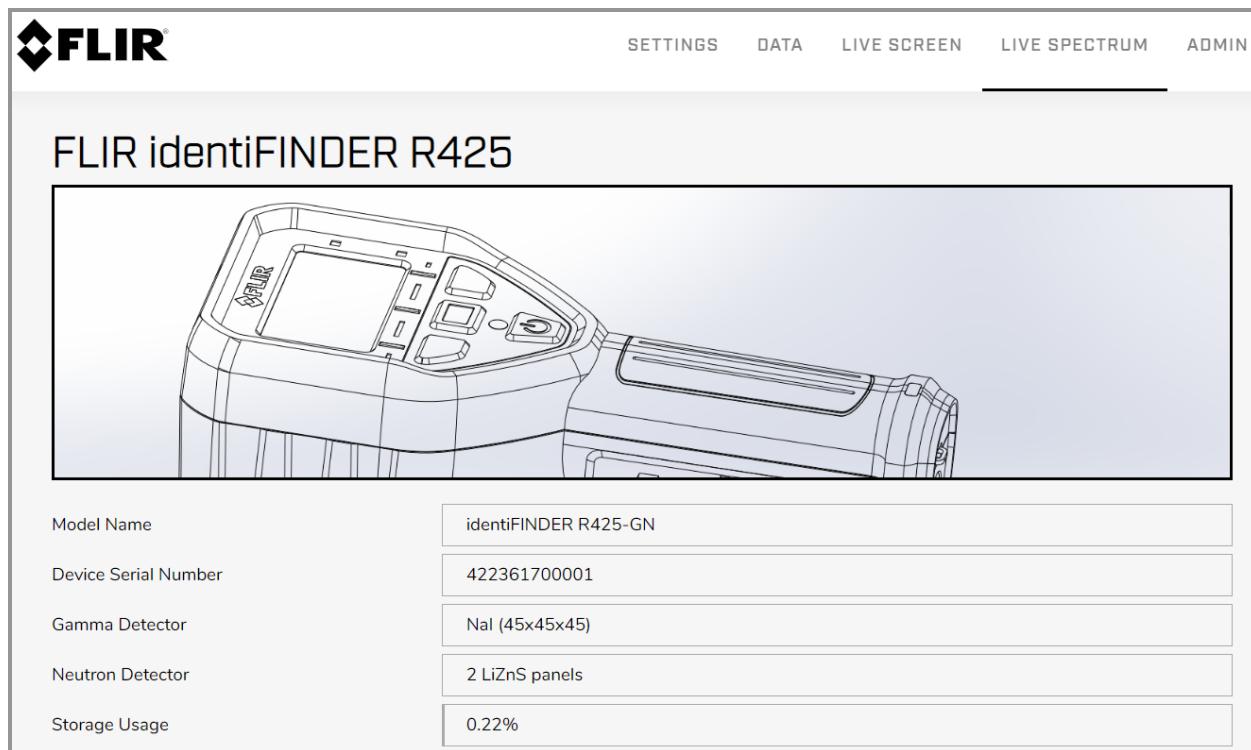

Figure 8-1: R425 web interface: Home page
2. Open one of the following supported web browsers and navigate to <http://r425.local> to display the home page (Figure 8-1):
- Microsoft® Internet Explorer® (IE), version 11 or above
The following commands and submenus are included on the main menu of the identiFINDER R425 web interface (see Figure 8-1).